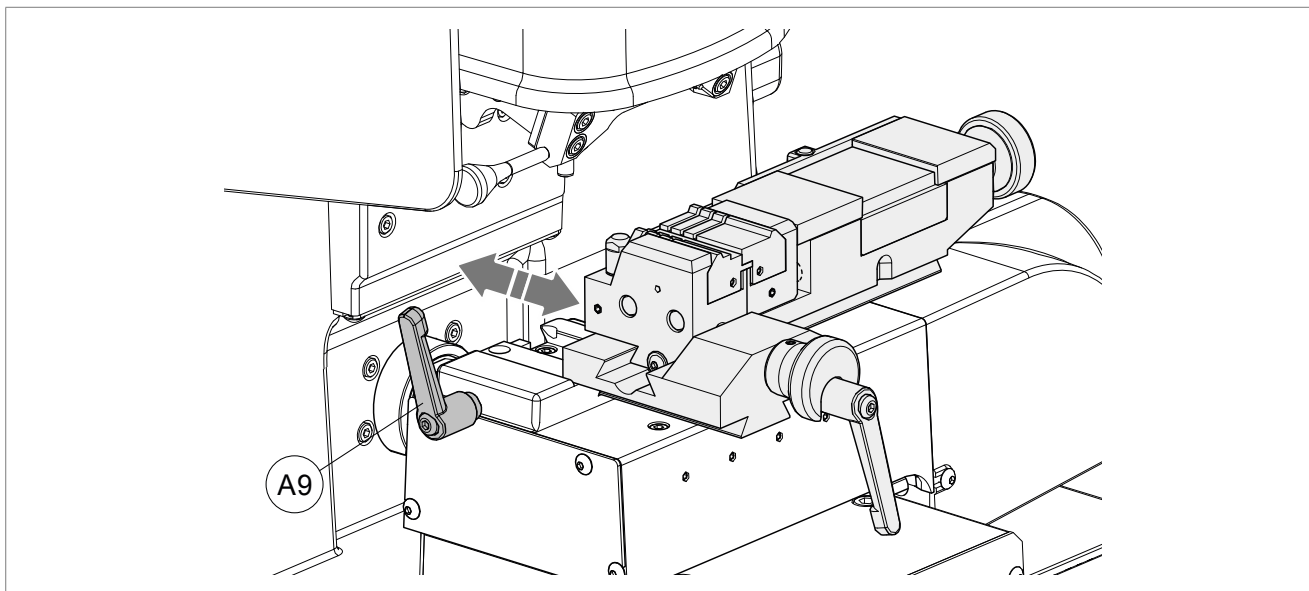

Fig. 25
- loosen the handle (A9) (Fig. 25) and pull the clamp out of the dovetail guide.